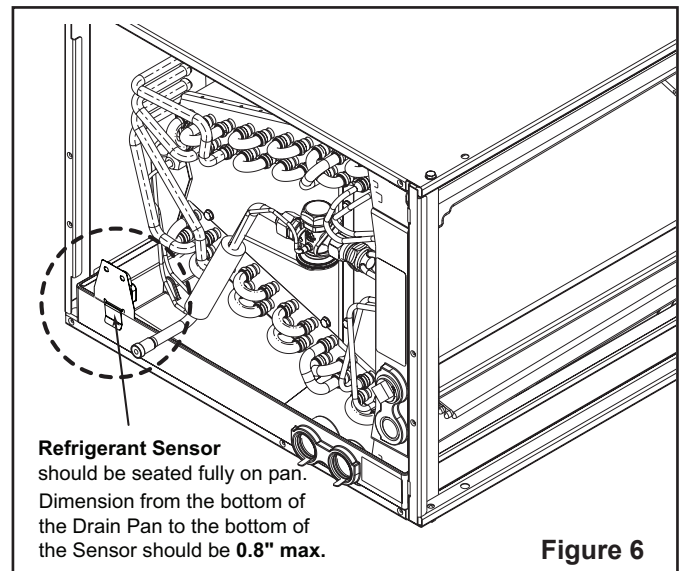

Figure 6
- b. Pull refrigerant sensor and clip up and away from the primary drain pan and remove it from the pan. Secure sensor to secondary pan using provided clip. Sensor should be positioned close to secondary drain lines. See Figure 6 for detail.
- h. Pull refrigerant sensor and clip up and away from the primary drain pan and remove it from the pan. Secure sensor to secondary pan using provided clip. Sensor should be positioned close to secondary drain lines. See Figure 6 for detail. Ensure sensor wiring harness is clear of refrigerant lines to avoid damage during field connection brazing. In some models, the wire tie attaching the sensor harness to the TXV body may need to be snipped to allow for wire harness to be extended for correct sensor placement.